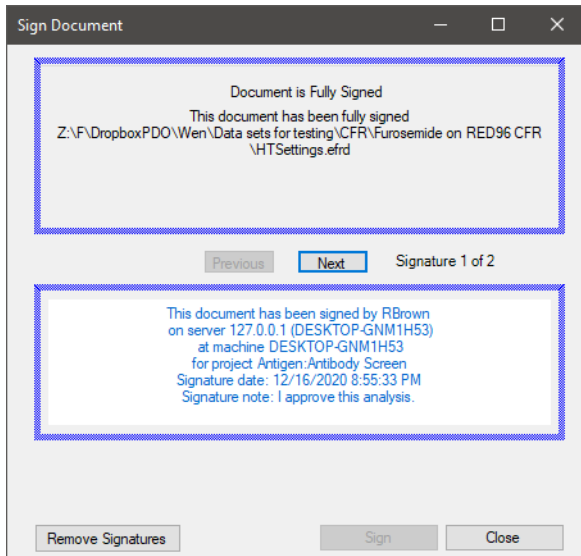

Figure 12-19: Sign Document Dialog
1. Click **Experiment > Signature**. The Sign Document dialog displays (Figure 12-19).